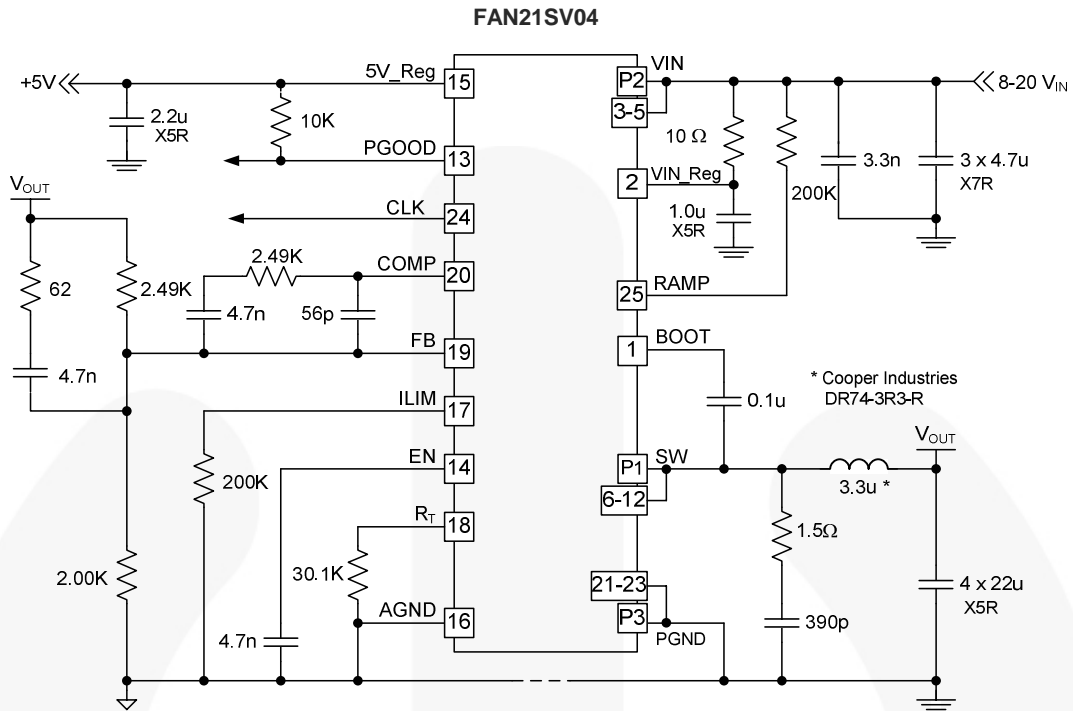
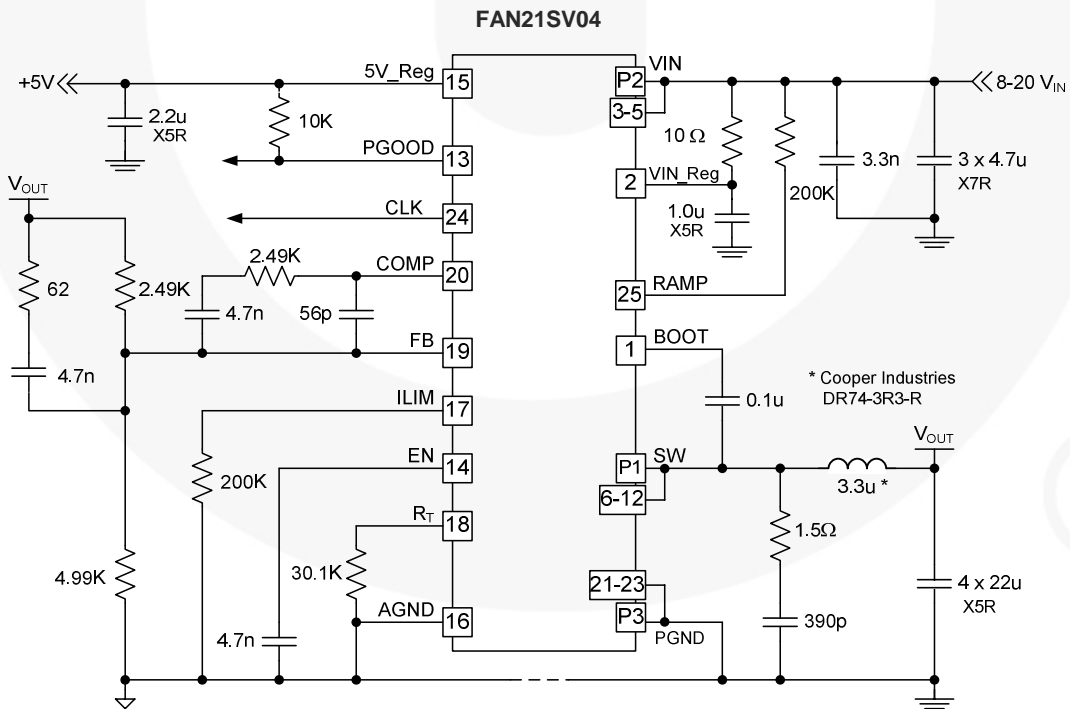

Figure 10. Single-Supply Application Circuit: 1.8V_{OUT}, 500KHz, Master, 8V – 20V Input
Figure 11. Single-Supply Application Circuit: 1.2 V_{OUT}, 500KHz, Master 8V – 20V Input
Typical operating characteristics using the Figure 10 circuit; $V_{IN}=12V$, $V_{CC}=5V$, $T_A=25^\circ C$, unless otherwise specified.
4. Circuit values for this configuration change in Figure 10.
5. Circuit values for this configuration change in Figure 10.
Typical operating characteristics using the Figure 10 circuit. $V_{IN}=12V$ unless otherwise specified.
For applications with $V_{IN} < 6.5V$, FAN21SV04 can be used if V_{IN_Reg} is provided with a separate low-power source $>6.5V$. V_{IN_Reg} supply should come up after V_{IN} during dual-supply operation. The V_{IN_Reg} pin should always be decoupled with at least a 10Ω resistor and a $1\mu F$ ceramic capacitor (see Figure 10, Figure 11).